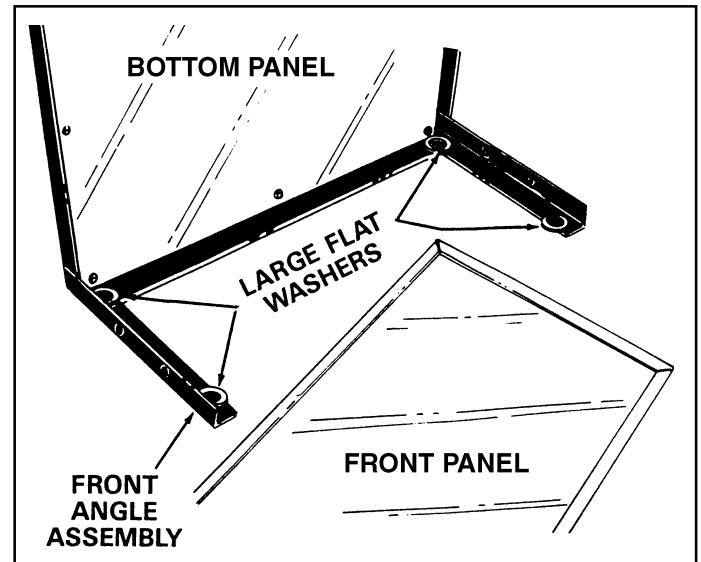

FIGURE 5
7. Stand the cart on its front end with the front angle assembly on the floor. See figure 5.
8. Temporarily place four large 1-1/2" flat washers (used on wheel axle) on the inside of front angle assembly. See figure 5.